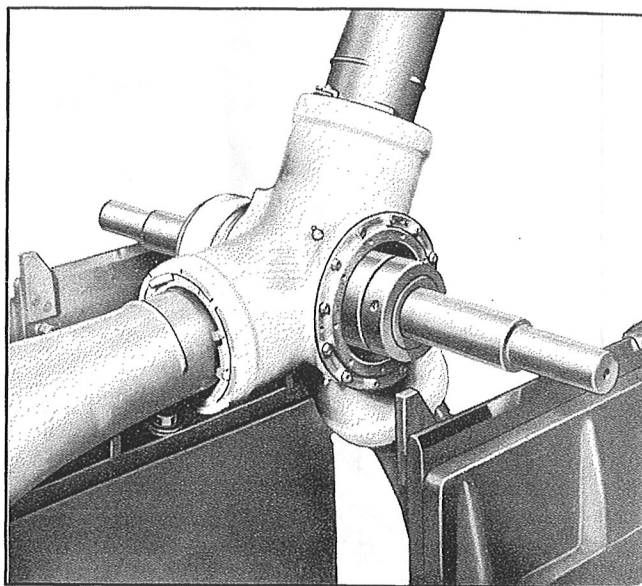

Figure 219—Balancing the Propeller Horizontally
*Step 14.*—Rotate the arbor until it reaches the center of the knife edges, as shown in Figure 219.